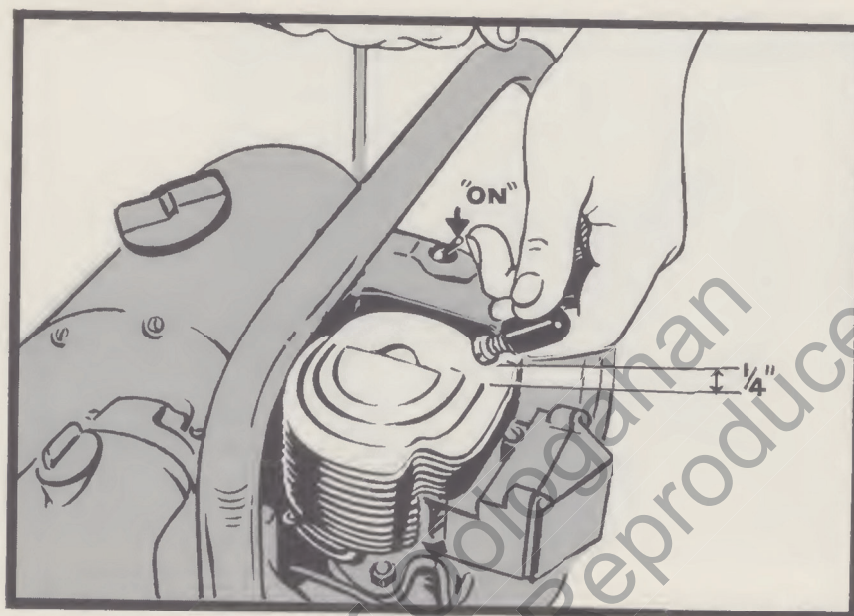

Figure 13—Testing for Magneto Spark
- (1) Spark plugs are made in wide ranges to suit different engines. The Zip chain saw uses Champion J-6-J (Homelite No. 40190-1) or HO-8A (Homelite No. 71530).
- (2) To remove the spark plug, remove the cylinder shield, held by three 8-32 pan head screws; twist the spark plug cover ("Sparky") clockwise and pull it off the spark plug terminal nut. Remove spark plug and gasket from the cylinder.
- (3) Clean both the porcelain insulation and the electrodes and adjust the electrode gap to .025". If the electrodes are badly burned or the porcelain is cracked, replace with a new spark plug and gasket.
- (4) A wet spark plug indicates a flooded engine and may be due to faulty fuel supply, spark plug, or faulty ignition. An oily spark plug indicates too much oil in fuel mix, dirty air filter, or rich carburetor adjustment.
- (5) With the spark plug removed, it is easy to test for ignition spark. Be sure the toggle switch is "on." Push a long 1/4-20 screw into the spark plug cover to contact the metal spring connector on the end of the high-tension lead. Hold the rubber cover as shown in figure 13—keep fingers away from the screw to avoid shock—hold screw head 1/4" away from the cylinder, crank engine rapidly and observe the spark. If a strong spark jumps between the screw and the cylinder, the magneto is working properly. If there is only a weak spark or no spark, your Homelite servicing dealer or branch is equipped to check the complete ignition system.